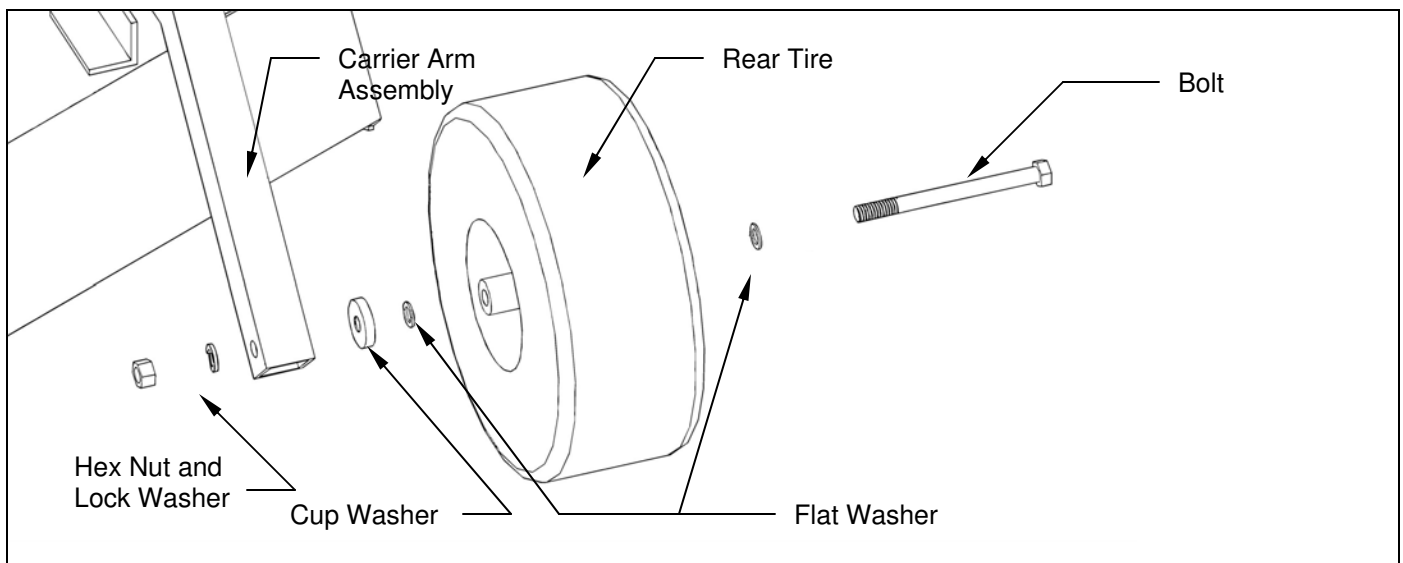
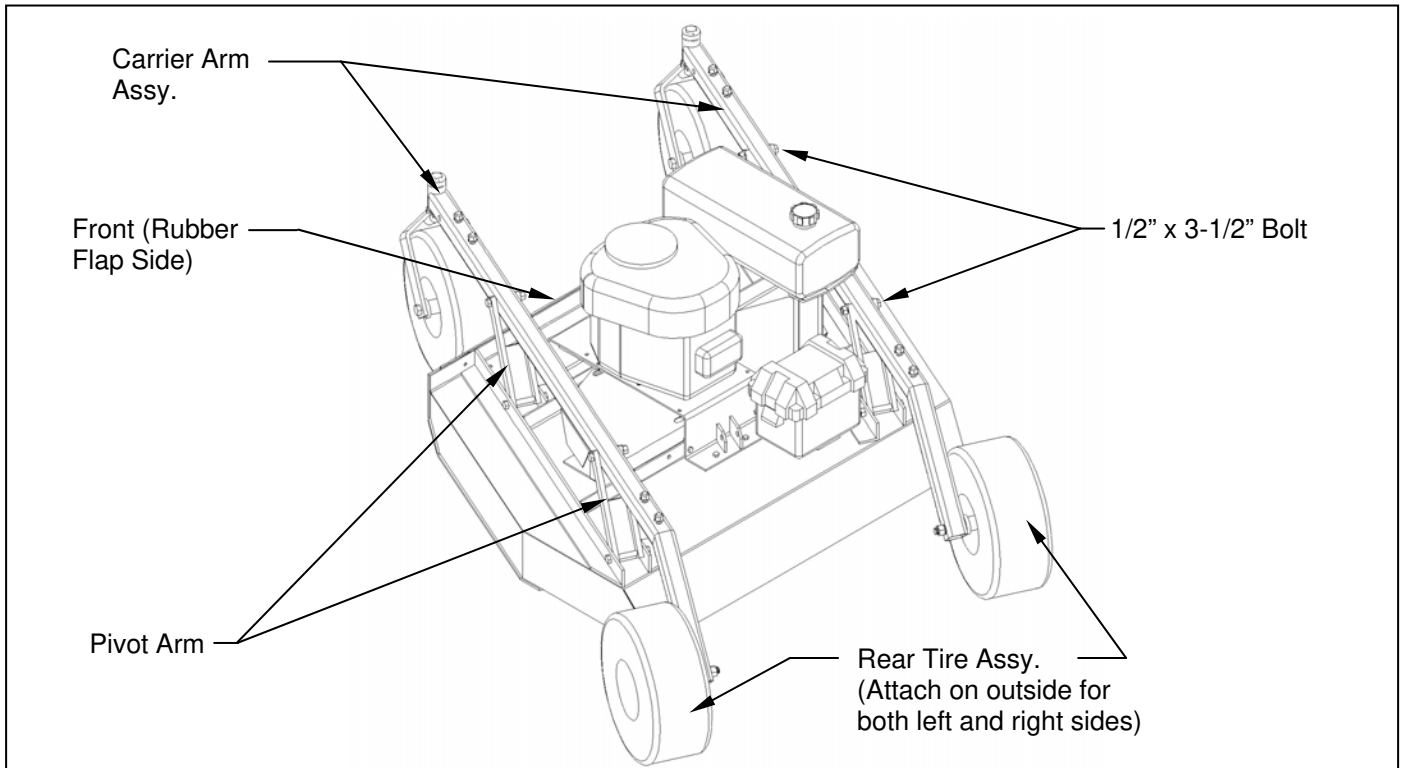

Figure 1: Rear Tire Assembly Installation
Figure 2: Carrier Arm Installation
2. Install the rear tire assemblies on the carrier arm assemblies. Remove the hex nut and lock washer from the rear tire assembly and install the 5/8"x7-1/2" tire axle bolt through the hole in the carrier arm assembly. **See figure 1.** Secure assembly with the lock washer and hex nut provided on the rear tire assembly. The rear tires should be offset to the outside of the deck assembly on both sides. **See figure 2.**
3. Install the two carrier arm assemblies in the pivot arms, which are located on the mower deck assembly. Place the assembly so that the castered tires are on the front and the fixed tires are on the back. **See figure 2.** Secure with 1/2" x 3-1/2" hex head bolts and lock nuts provided on the pivot arms.